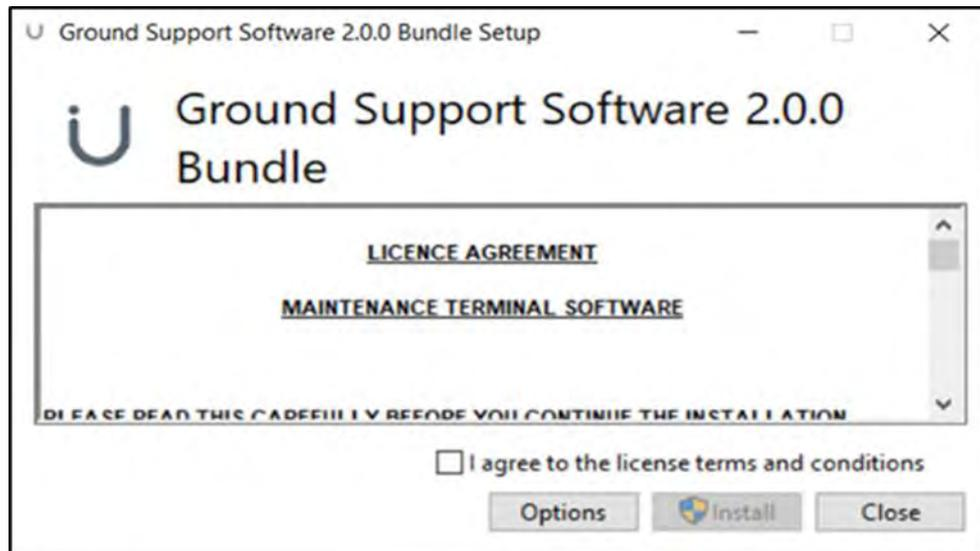

Figure 2-1 Licence Agreement
- (c) Follow the onscreen prompts to the Licence Agreement. **(Ref Fig 2-1)**
- (d) Read the Licence Agreement (You must agree to the Licence Terms and Conditions by selecting the I agree box before you can continue with the installation). **Ref Fig 2-1**